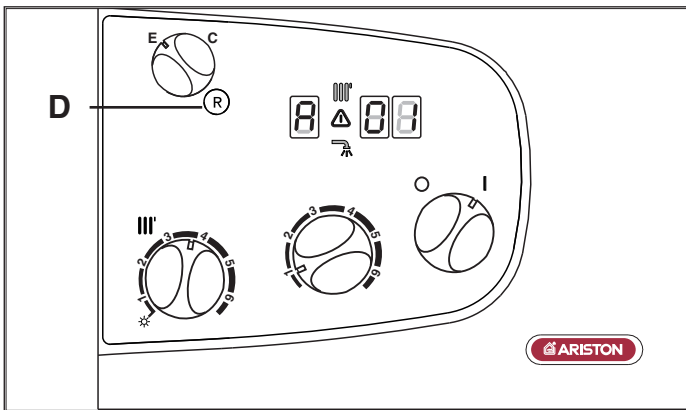

FIG. 3.4
6. Press the reset button "D" (see Fig. 3.4) the boiler will re-attempt ignition. If the burner does not light the first time, wait 1 minute, purge the gas and repeat the procedure.